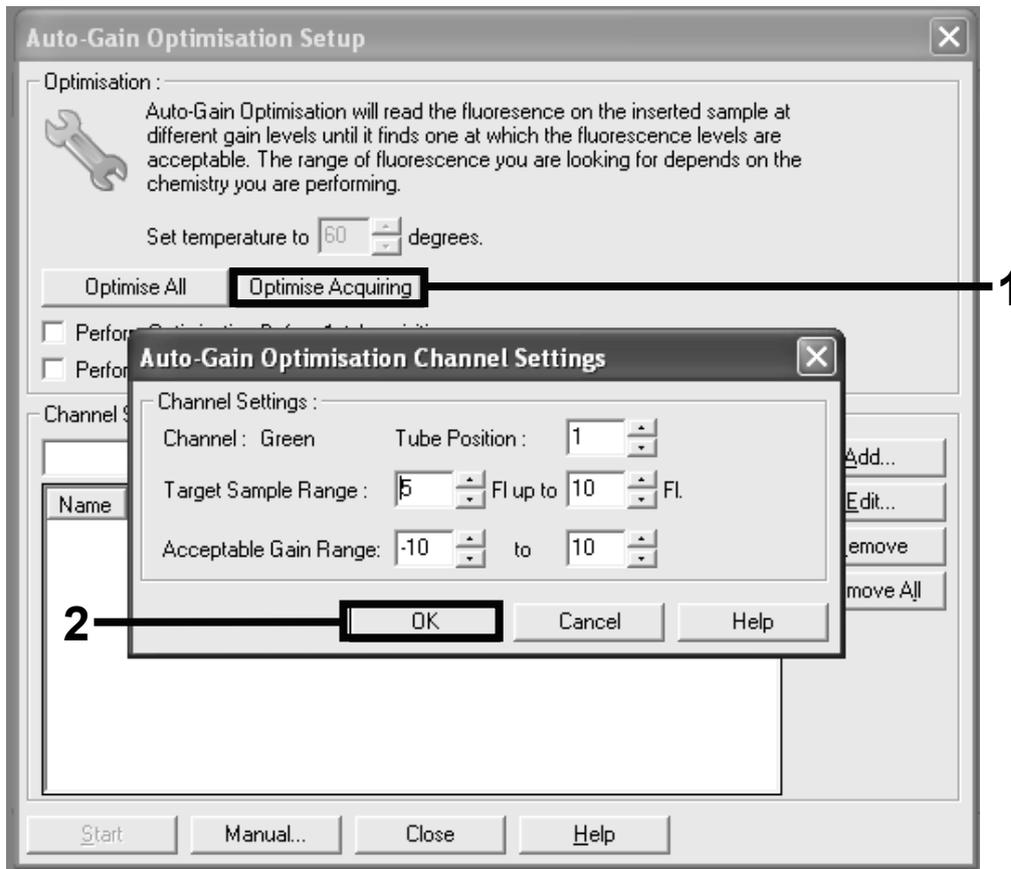

Figure 11. Auto-gain optimization for the green channel.
18. Click the "Optimise Acquiring" button. Channel settings are then displayed for each channel. Accept these default values by clicking "OK" for both channels (Figure 11).